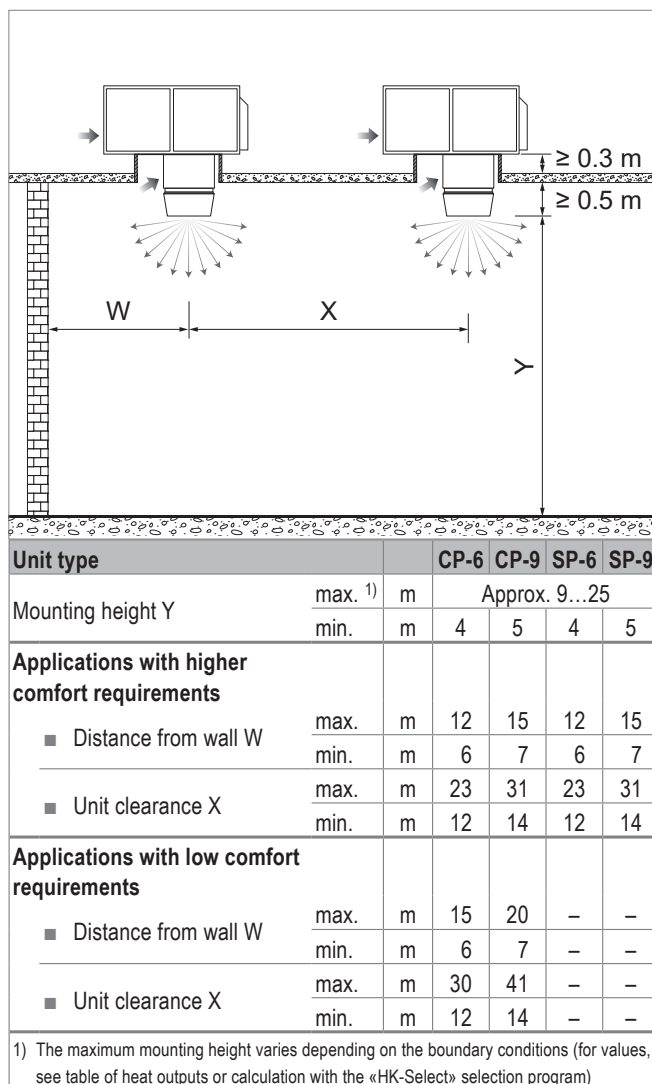

Fig. E2: Minimum and maximum distances
- Observe the minimum distances according to Fig. E2.